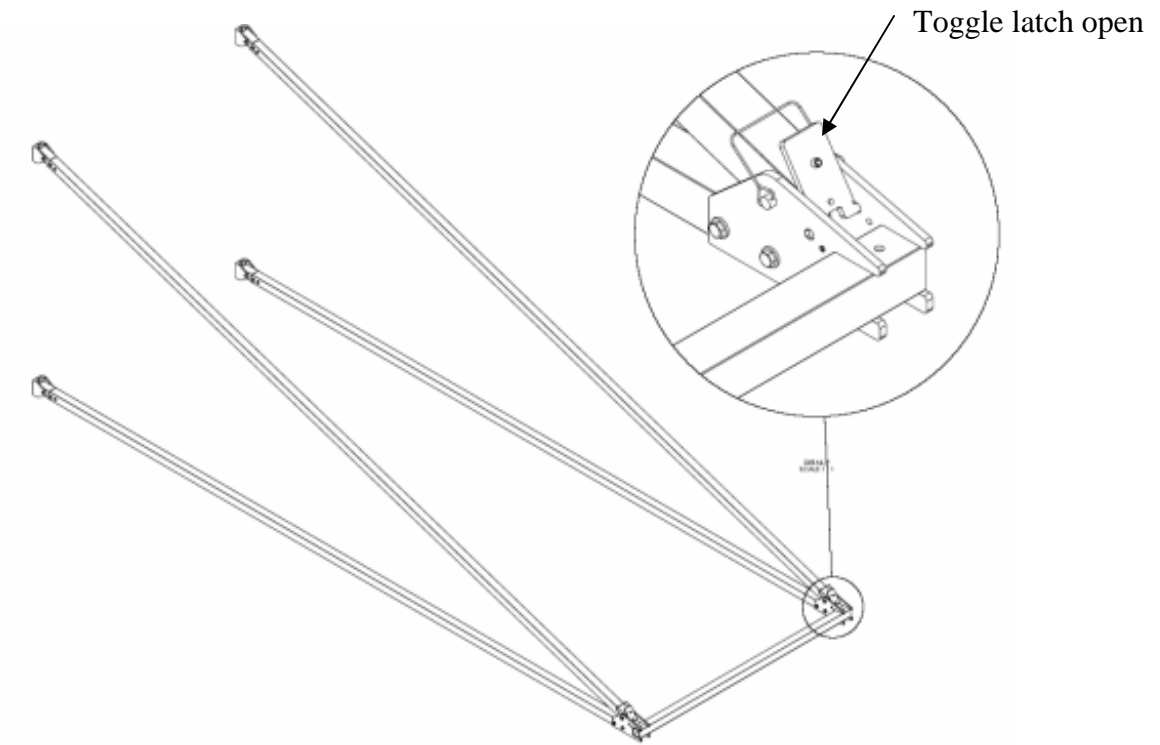

Figure 4 - Front bar installation
1. Ensure all toggle latch plates are in the open position (**Fig 4**) before installing the front bars. Note the front bars are generally all the same length except for possibly the last section. These pieces must be installed in the correct order so the tab on the latch plate (when pivoted down) fits into the corresponding hole on the front bar. This IS REQUIRED for proper operation of the awning. The ends of each tube are stamped with a consecutive number (1 starts at the rear of the trailer, unless mounting on drivers side, then 1 starts at the front of the trailer). The holes on the front bar **MUST BE** on the top surface when installed.
3. Install the first front bar tube as shown in **Fig 4**